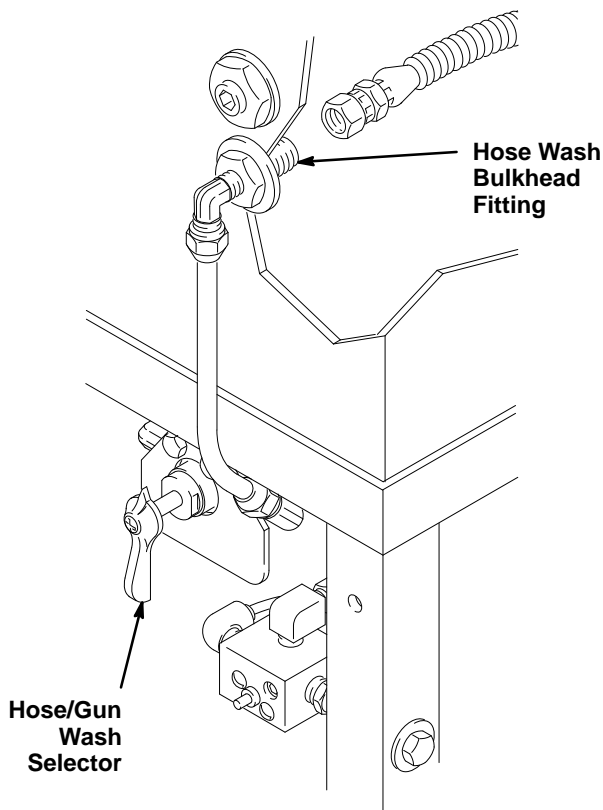

Fig 7
2. Connect one end of the hose to the hose wash bulkhead fitting. See Fig 7.